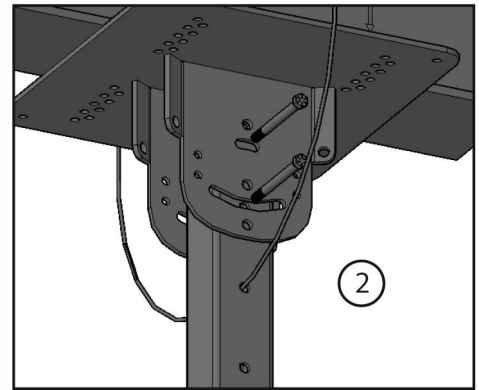

Fig. 7 - Attaching steel downrod
- ② Attach and fasten the steel downrod using (2)  $\frac{1}{2}$ -13 x 4- $\frac{1}{2}$ " G.5 HHCS, (2)  $\frac{1}{2}$ -13 G.5 Nylon Lock Nut, and (4) 1/2" Flat Washers. Secure as shown in Fig 7.